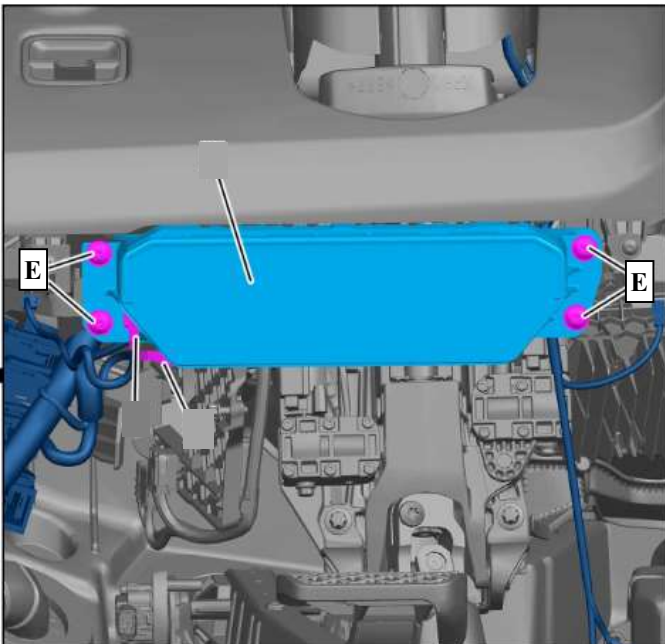

Figure 4
5. Loosen the four screws (**Figure 4, E**) on the driver side knee airbag and torque to **4 Nm**.